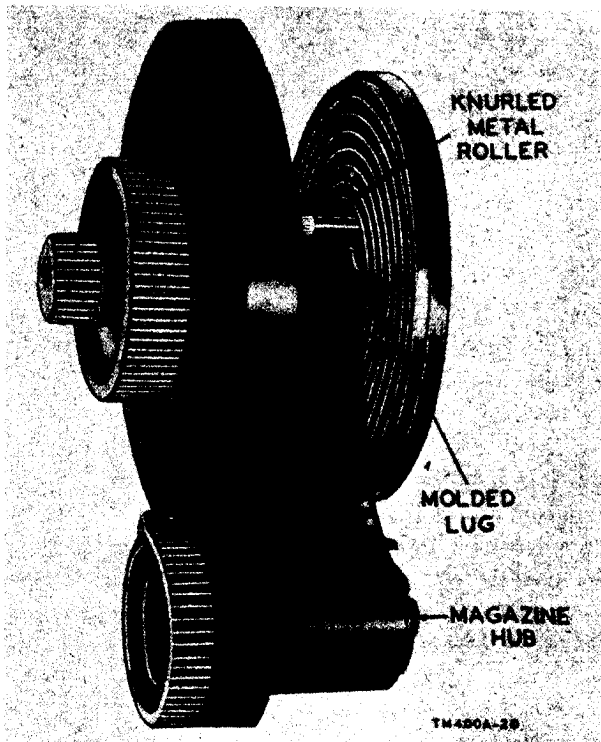

Figure 20. Starting positions for threading.
- c. *Threading Reel* (fig. 20).
- (1) Pull the leader end of the film forward to engage it with the knurled metal roller (figs. 19 and 20). Make sure that the end of the film is squarely against the shoulder (fig. 19) of the spiral hub and that the perforated edge of the leader is in contact with the small molded lug (fig. 20) of the bottom